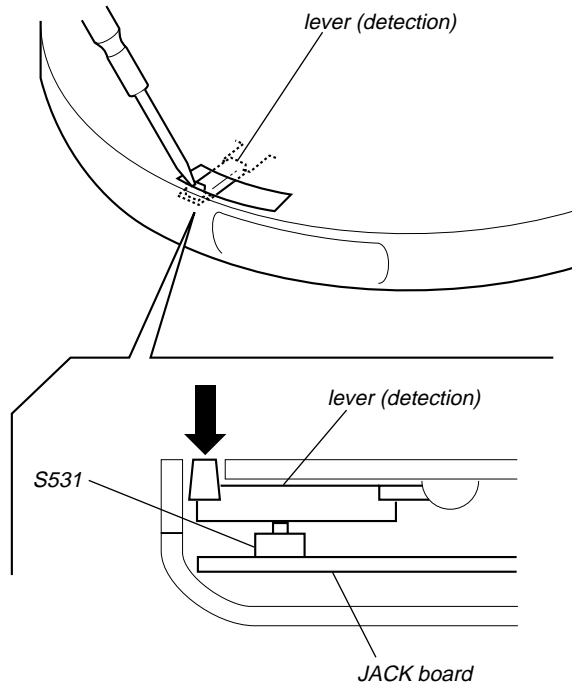

Fig. 1 Method to push the S531
2. With a disc not set, turn on the S531 with a screwdriver having a thin tip as shown in Fig.1.